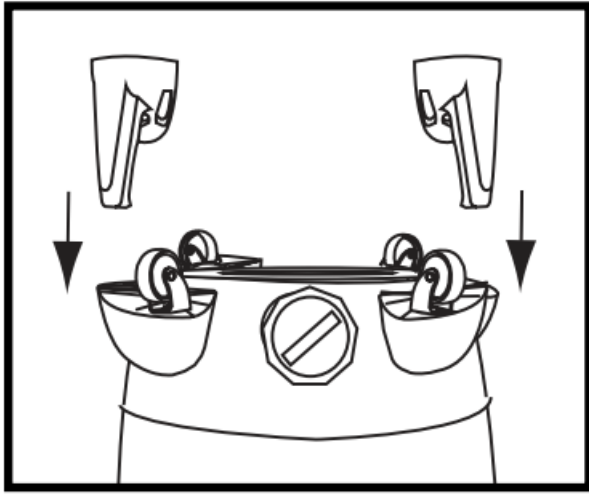

FIGURE 13
12. With tank drain facing you, attach hose holder A to caster foot A, and hose holder B to caster foot **B.** **FIGURE 13.**